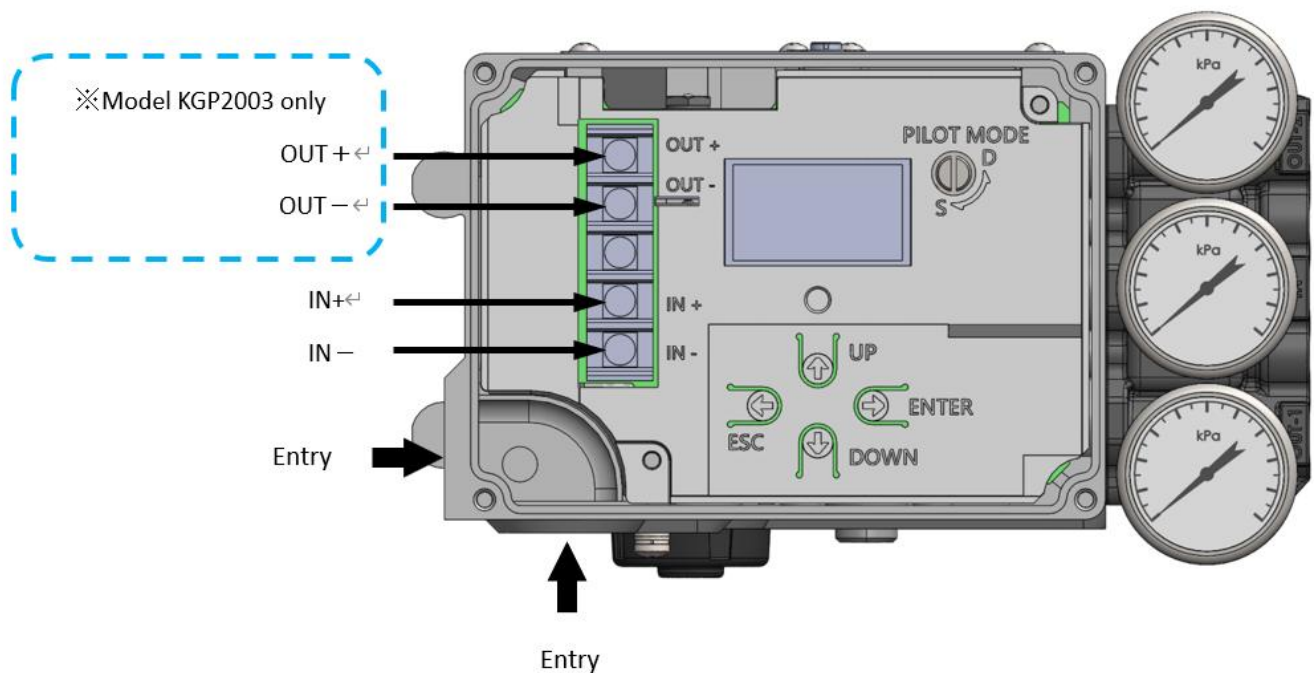

Figure1.4a Entries and Connection facilities
5. There is a connection terminal on the outside of the device for the external bonding conductor, as shown in Figures 1.4a and 1.4b Make wiring connections according to the installation environment and applicable laws and regulations.